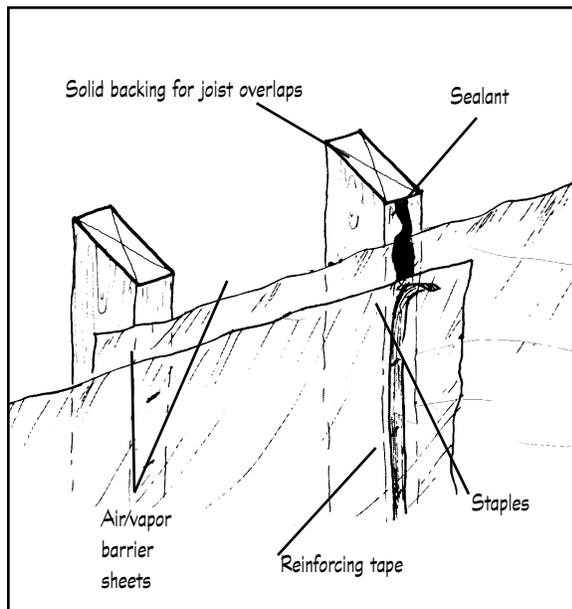
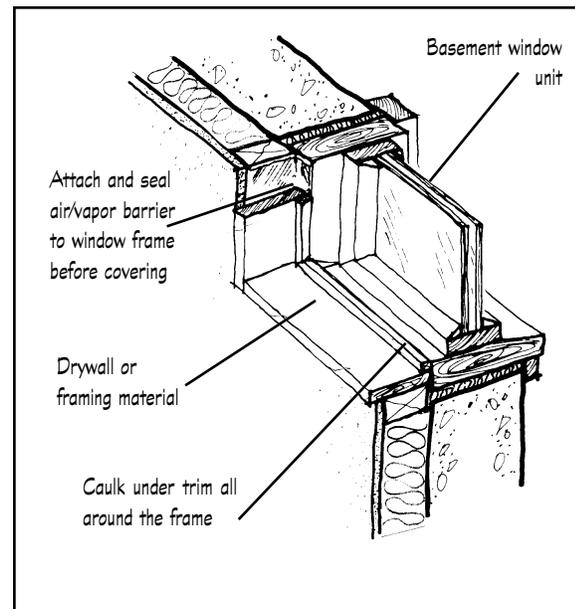

Figure 8
Figure 9
**Step 6: Apply the air/vapor barrier.** Also called an air/vapor “retarder,” it is essential to add this layer of protection on the inner or “warm” side of the insulation. This barrier can be provided by 4 or 6 mil polyethylene. Staple the polyethylene to the framing, using only enough staples to hold the material in place. Do not pull it tight. All seams should overlap one joist or stud space (see Figure 8). Better contractors use acoustical sealant (a caulk and glue mixture) to seal the barrier against air leakage. Overlaps, joints or edges can be reinforced with a strong tape (do not use cloth backed duct tape) before stapling. The barrier should also be sealed around windows and exterior door openings as shown in Figure 9.